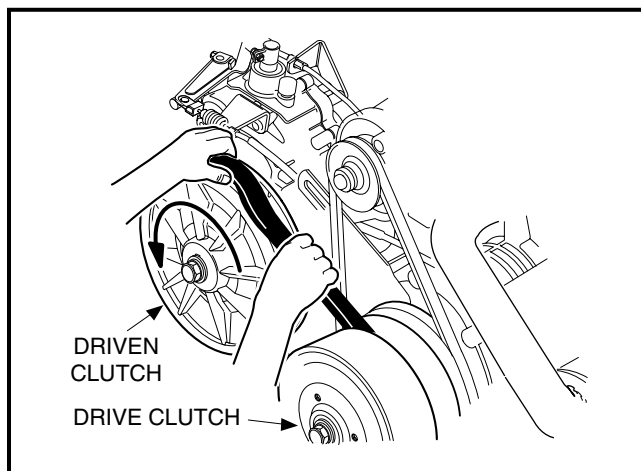

Figure 17-2 Drive Belt Removal
4. Grasp the belt midway between the drive and driven clutches. Lift upward on the belt to force the sheaves of the driven clutch apart, then roll the belt off the driven clutch by rotating the clutch counterclockwise (**Figure 17-2, Page 17-3**). See following **CAUTION**.